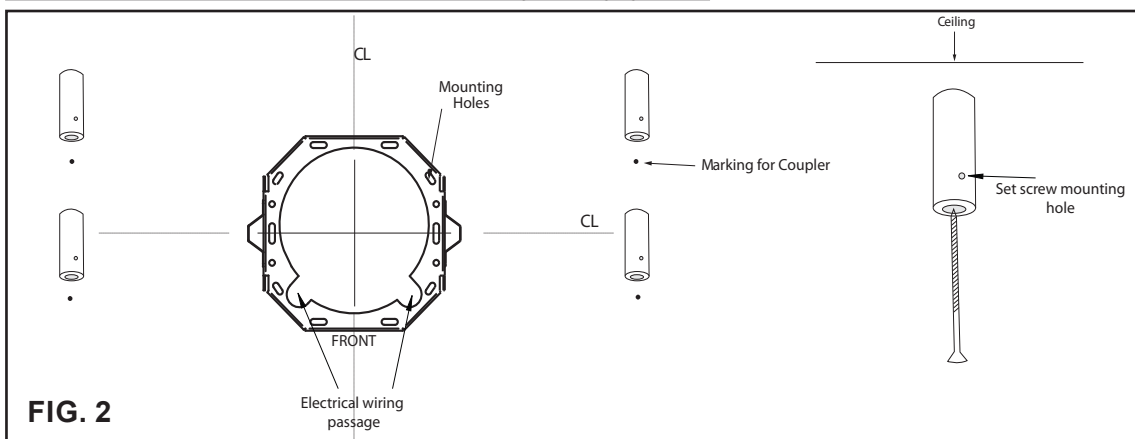

FIG. 2
4. Center, mark and fasten ceiling bracket onto ceiling using (4) M4*38 screws and (4) washers. Make sure the word "FRONT" displayed on the ceiling bracket is facing the front of the hood where the controls will be located. FIG. 2.
5. Attach telescopic rod couplers to marked locations on ceiling using (1) M4*2" wood screw for each coupler. Make sure the set screw mounting hole is toward the bottom of the coupler during mounting. FIG. 2.